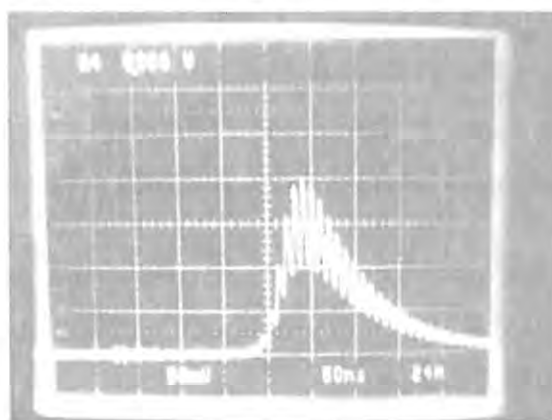

Figure 6.18 RA Cavity Q-Switch pulse
4. Monitor the RA cavity radiation using the Coherent fast photodiode situated behind mirror #25. The typical Q-Switch pulse is shown in Fig. 6.18.